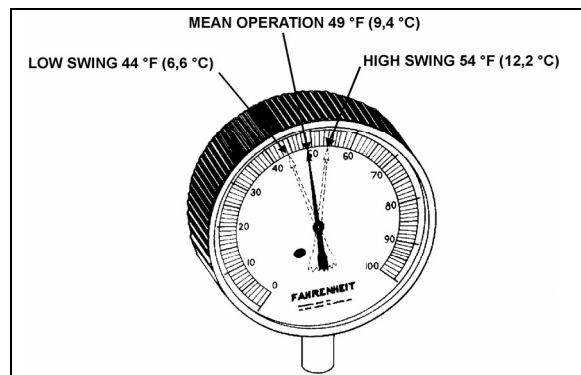

FIGURE 39: HIGH & LOW SWING TEMPERATURE AT REMOTE BULB22047
6. Check approximately 5 readings of pressure at 2-minute intervals and convert to temperature using the temperatures & pressures table (page 38). Likewise check the temperature reading at the remote bulb at the same 2-minute intervals and record the low and high swing readings of the needle (refer to Fig. 39).
Example of readings taken at fig. 39: